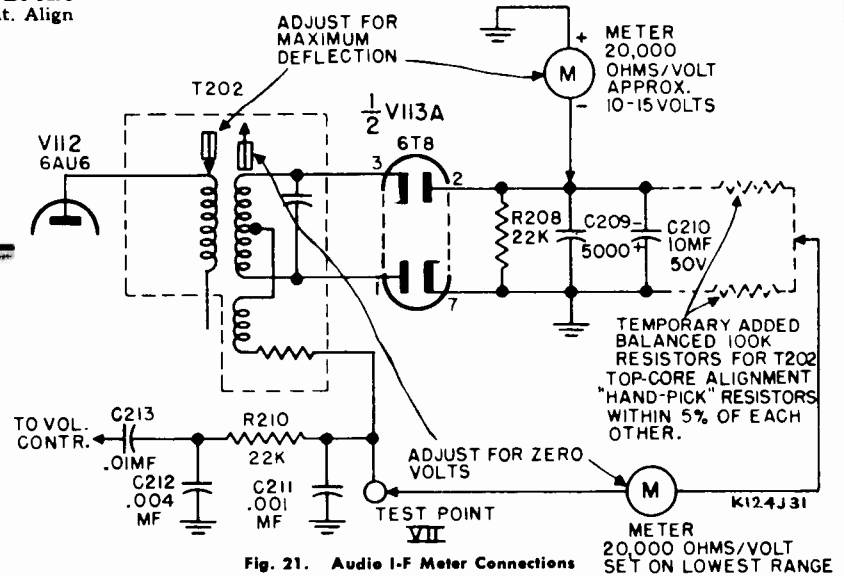

Fig. 21. Audio I-F Meter Connections
2. Figure 21 shows a simple resistor network needed for the alignment of T202 secondary. These two 100K resistors should be chosen as accurately as possible, for equal resistance. Be sure to remove these resistors after completing the alignment. Align as follows: